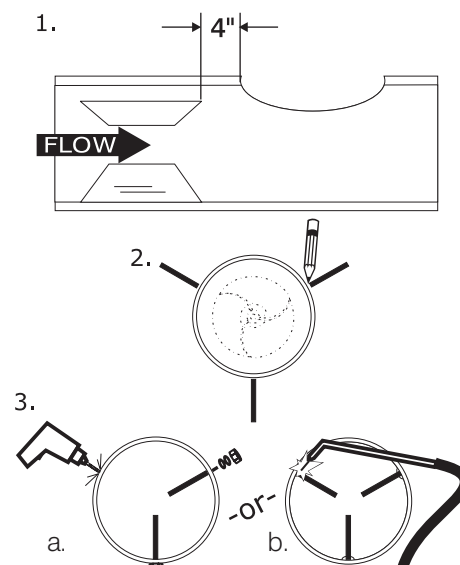

Figure 3.5
3.2.3 Install straightening vanes (if required) as shown on Figure 3.5.